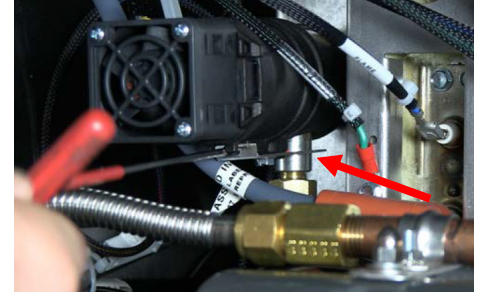

Figure 15
- 5) A split-tail bracket on the blower straddles the gas line on the burner (see Figure 15).